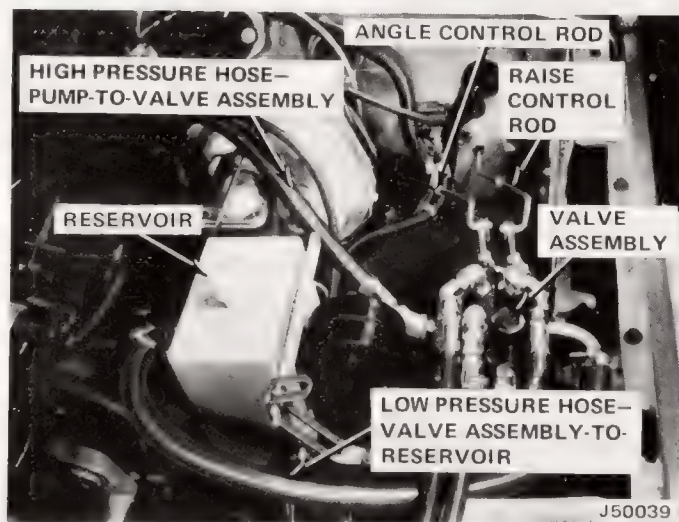

Fig. 1-57 Hose Installation
valve assembly with nipple, 45-degree elbow, and coupling (fig. 1-57).
(12) Install low pressure return hose from valve assembly to inlet on reservoir. Secure with two hose clamps (fig. 1-57).